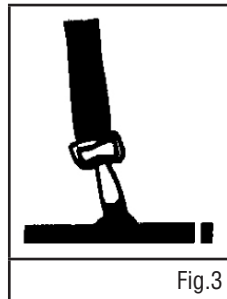

Fig.3
2. Clip Method: The strap fasteners feature snap clips on each strap to secure the bag to the rack rings. Fasten the clips into the rings and tighten all of the straps securely and evenly. See figure 3.